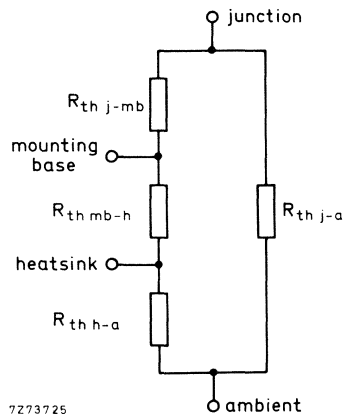

Fig.3
- a. The various components of junction temperature rise above ambient are illustrated in Fig.3.